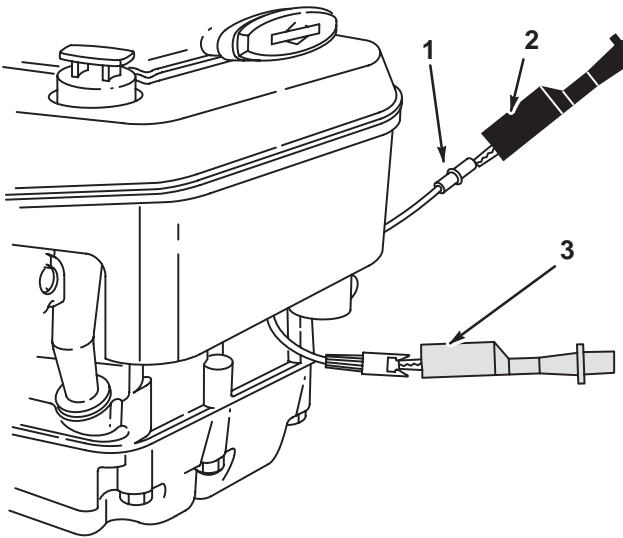

Fig. 108 – Testing Alternator Output
4. Attach RED test clip to output terminal, Fig. 108.